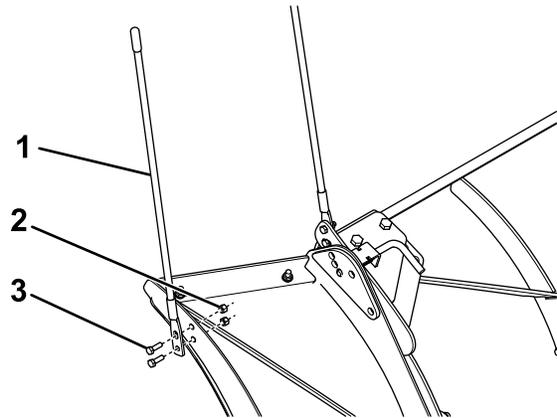

Figure 21
- Attach a plow blade guide to the plow wing using 2 bolts (5/16 inch) and locknuts (Figure 21), and torque the bolts to 19 N·m (14 ft-lb).